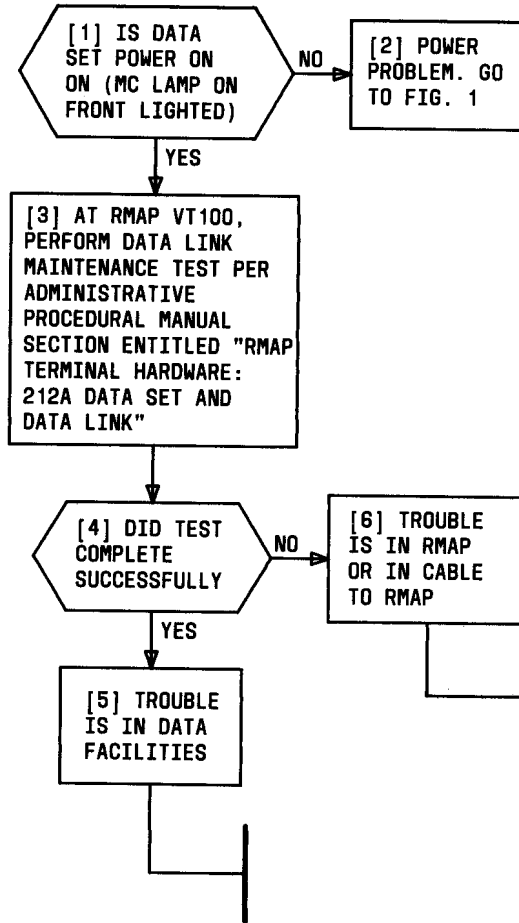

Fig. 2—Procedure for Isolating Data Link Failures
- (b) Revises Fig. 2 to conform to the procedural manual referenced.
- Part 4 and Fig. 2 isolate failures in the data link to the Electronic Switching System (ESS).
4.04 Procedures for isolating data link failures are shown in Fig. 2. These procedures isolate failures in the RMAP (ie, from the RMAP to the end of the BC05C-25 cable) from failures in the provided data facilities (ie, data set and facilities from the data set to the ESS office).